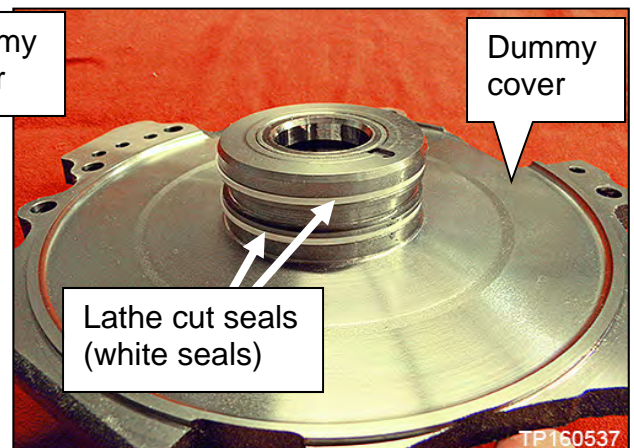

Figure 51
- Do NOT remove the lathe cut seals (white seals), Figure 51 from the dummy cover. These seals will be reused.